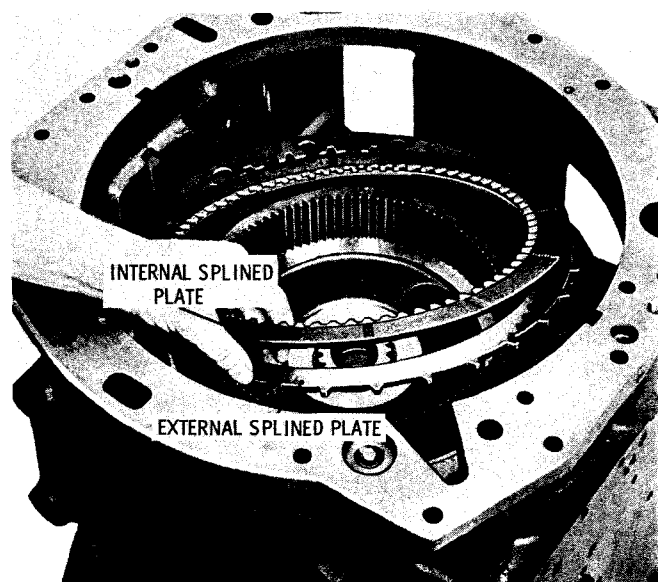

Fig. 7-37. Installing high-splitter clutch plates S1684
(5) Beginning with an external-splined plate, alternately install two external and two internal-splined, high-splitter clutch plates (fig. 7-37).